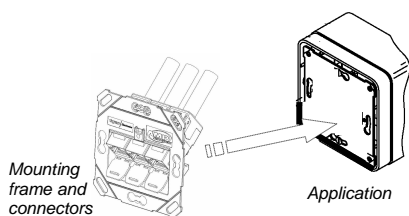

Fig. 6
- 5.3 Place and fix the mounting frame into the application (see 3.2 - Applications); choosing the adequate holes, according to each application holes (fig. 6).